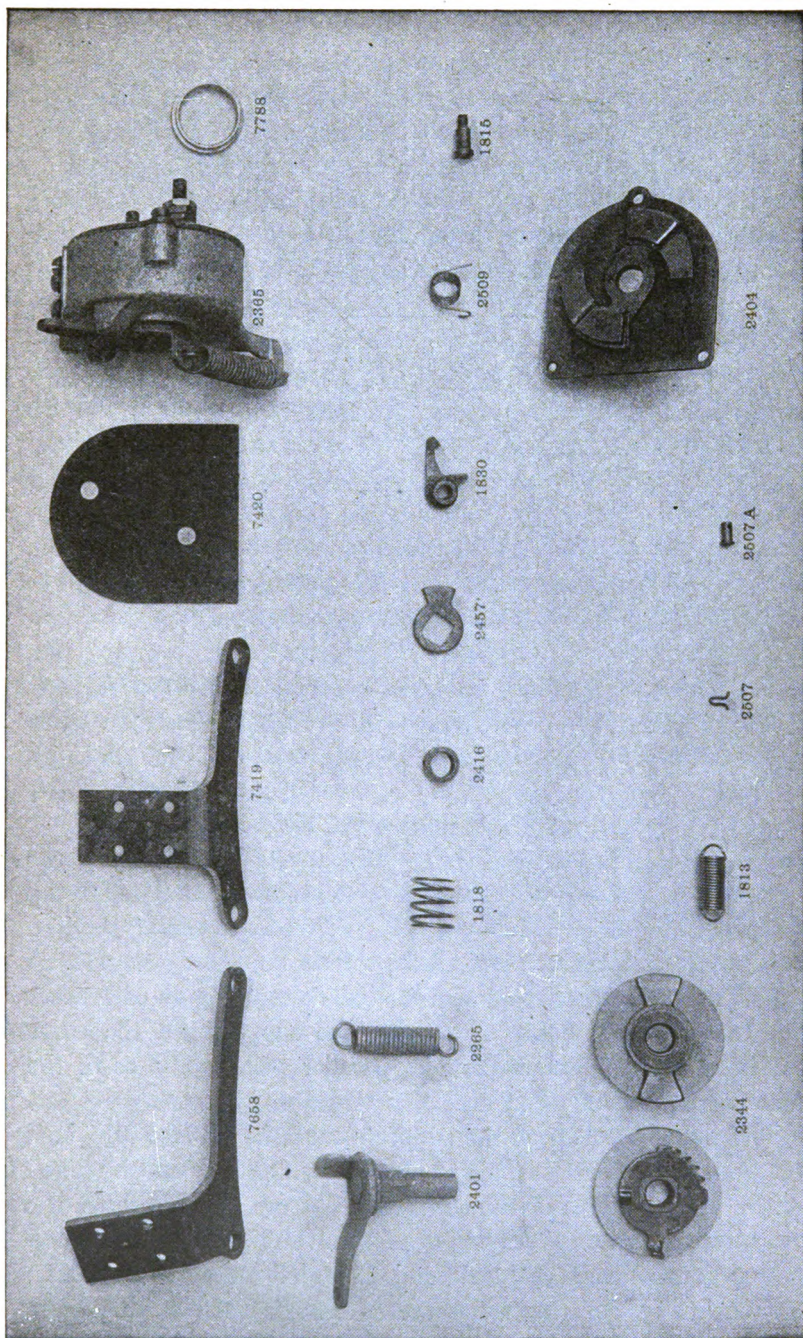
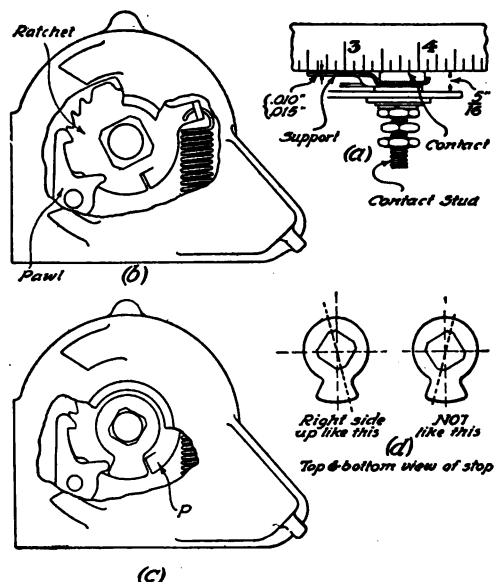

Fig. 306. View of Essential Parts of North East Starting Switch
Fig. 307. Assembly of Starting Switch
Starting Switch. When its operation indicates that the contactor blades have worn, the starting switch should be dismantled, and, if necessary, new blades should be inserted. To disassemble the switch, proceed as follows: (1) Remove the spring 2265, Fig. 306, on the switch case 2365; (2) remove the cotter pin from the collar 2416; (3) withdraw the shaft and lever 2401, together with the spring 1818; (4) remove the three screws which hold the cover 2404 in place,
The upper surfaces of the supports must be .010 to .015 inch lower than the contact surface of the block. Care should be taken that the upper surface of the contact blocks are $\frac{5}{16}$ inch above the inner surface of the cover. A small steel straightedge laid upon the face of the contact block and extended over the supports, as shown in Fig. 307 (a), will serve as a means of checking these dimensions.
Before placing in service, the contact surfaces must be carefully cleaned and lubricated with a very small quantity of vaseline. To reassemble the switch: (1) Connect the spring 1813, Fig. 306, to the arm of the ratchet; (2) place the contactor member 2344 in the switch case in such a position that the ratchet will lie against the pawl 1830; and (3) hold the switch case in the left hand, lever side up, and insert the right forefinger through the hole in the switch case and introduce the pawl into the first notch of the ratchet, Fig. 307 (b); (4) hold these parts carefully in position and replace the cover 2404, Fig. 306, fastening it to the switch case by means of the three screws; (5) insert the stop through the hole in the switch case and replace it upon the ratchet plate in such a position that the elongated portion of the stop will lie between the raised projection which is found on the ratchet plate and the end of the short lever on the pawl as shown in Fig. 307 (c). It is very important that the stop be placed in the switch right side up, Fig. 307 (d) illustrating the proper method of doing this. (6) Place the spring on the shaft and replace the shaft in the switch, taking care while entering the shaft not to disturb the arrangement of any of the switch parts; (7) replace the collar and the cotter pin; and (8) connect the spring 2265 with the lug on the switch case. A drop of light oil should be applied to the bearing point at each end of the switch shaft 2401.